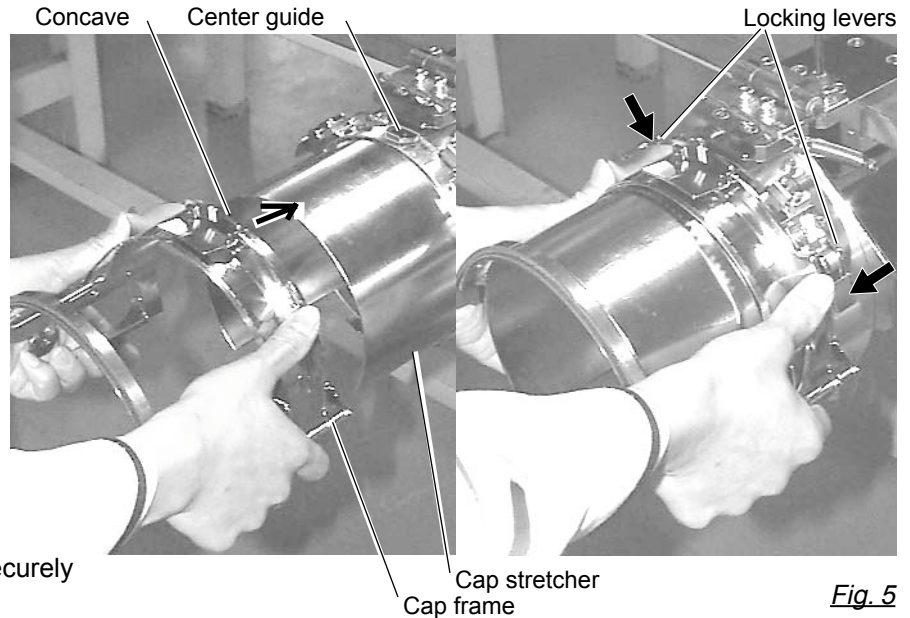

Fig. 5
2. As shown in Fig. 5, hold cap frame with both hands and place on cap stretcher. By pushing locking levers at 2 places with fingers, place cap frame so that center guide of cap stretcher fits in concave area of cap frame.
8. As shown in Fig. 5, place the cap holder frame the cap drive frame assembly. Push the hold lever in at 3 places as shown by the marks and place the cap holder frame so that center guide of the drive frame assembly gets in the upper cap holder frame.